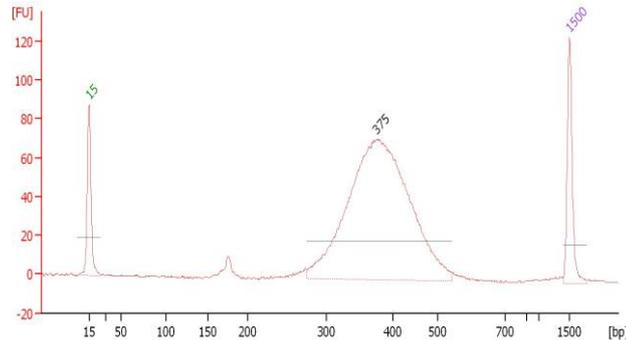

Figure 1 Example of a library QC.
*Note: DNA damage in FFPE tissue samples may decrease the size of DNA fragment to be smaller than 380 bp (e.g. 330 bp, which is much larger than 160 bp). The fragment of 160 bp (shown in Figure 1) will not affect the following steps).*
- The constructed DNA library should be more than 0.5  $\mu$ g. The main size of fragment DNA should be 380 bp for FFPE tissue sample or 330 bp for plasma sample. DNA damage in FFPE tissue samples may decrease the size of DNA fragment to be smaller than 380 bp (e.g. 330 bp, which is much larger than 160 bp). The fragment of 160 bp (shown in Figure 1) will not affect the following steps). If it's not qualified, repeat the library construction.